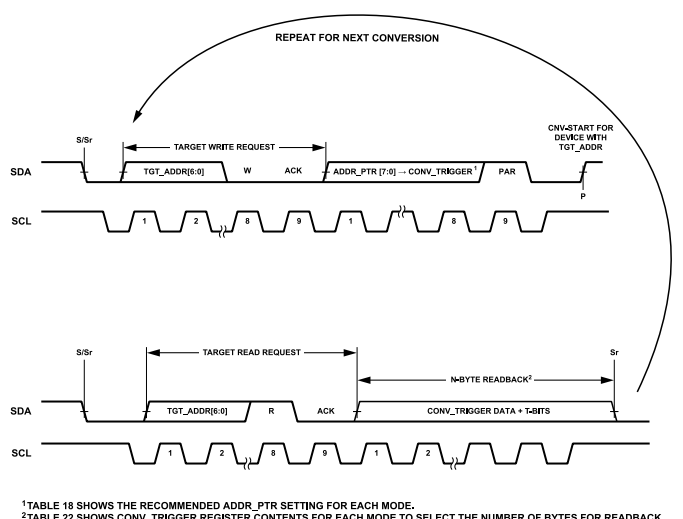

Figure 67. Using CONV_TRIGGER to trigger ADC conversions
To trigger an ADC conversion using the CONV_TRIGGER register, perform an I3C write to the target device, and update the ADDR_PTR to point to any of the register addresses of CONV_TRIGGER (0x56 to 0x59). The convert-start trigger occurs on the SDA rising edge of the stop (P) as shown in Figure 67. In sample mode, the convert-start trigger results in a single conversion. In burst averaging mode, the convert-start trigger results in a